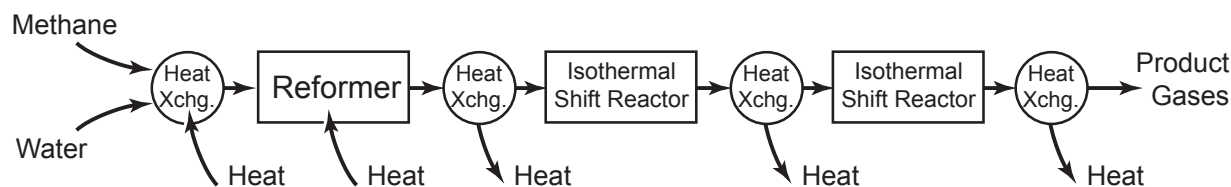

Fig. 1. Methane reforming system with two isothermal (high- and low-temperature) shift reactors.
Figure 1 shows a typical methane reforming system consisting of a reforming reactor, two shift reactors, and heat exchangers between them to heat or cool the process stream. In the first reactor (the “reformer”), methane and steam are supplied and reactions (2) and (3) are driven to equilibrium. This takes place over nickel catalyst at an elevated temperature, typically around 800 °C. The process is endothermic; this means the reformer has to be heated to keep its temperature at 800 °C while the chemical species equilibrate. (Upstream of the reformer, methane and water have to be mixed and heated to the reformer operating temperature.)
- 7) **Up to 20 bonus points.** Building on your scripts from Parts 4–6 above, analyze the performance of the typical methane reforming system described in the background and shown in Figure 1.
- If the shift reactors are isothermal as well (Fig. 1), find the mole fractions of chemical species leaving the high-temperature (400 °C) and low-temperature (220 °C) reactors, as well as the amounts of heat transfer needed to maintain the isothermal conditions (kJ per kg reactants).